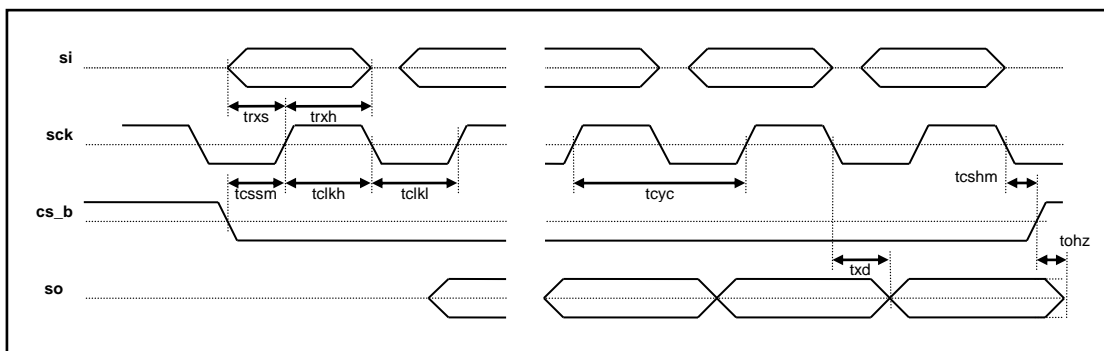

Figure 27. SPI (Serial Peripheral Interface) Timing - MSB First Mode
* For MSB first mode timing diagram, refer to Figure 27